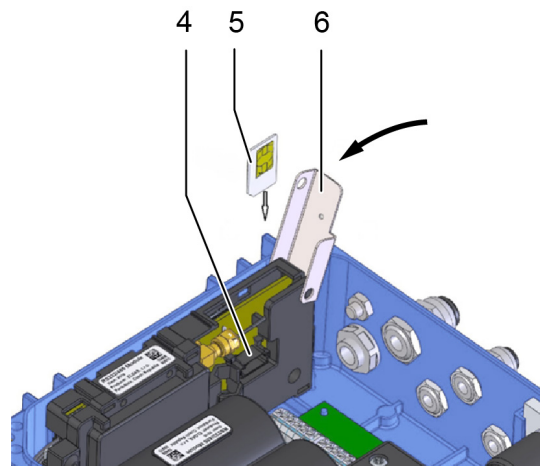

Fig. 30: Insert SIM card
- Insert SIM card (fig. 30, item 5) into the holder and push it until you hear a click.
- After inserting the SIM card, close cover (fig. 30, item 6) and push it slightly in the direction of the arrow for easier insertion.
- Connect the connector of the battery of modem (fig. 30, item 4). For a device without external power supply of the modem, connect the connector to the modem. For a device with the external power supply of the modem, connect the connector to the S4-PWR2 module and then connect the wires to the PWR2 terminals of the external power supply of the modem.